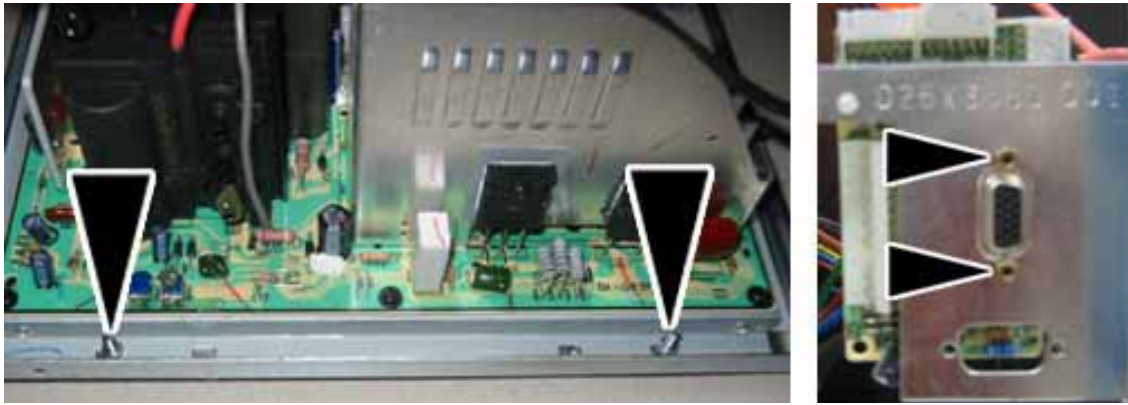

Figure 26. Removing the Monitor PCB Mounting Hardware
4. Remove the two 4/40 Jack nuts that hold the video signal PCB to the monitor frame. See Figure 26.